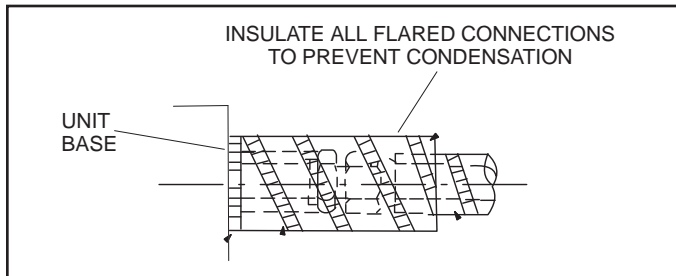

Figure 7. Insulate Flared Connections
8. Flared connections should always be accessible and must be insulated to prevent condensation. See figure 7.